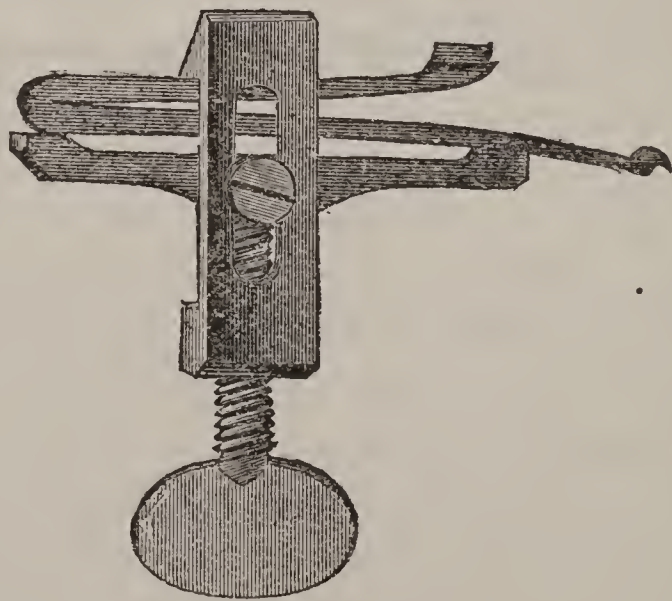

FIGURE 9.
*Mainspring Vise.*—This tool (shown in Fig. 9, as clamping a spring) is used to clamp the mainspring,